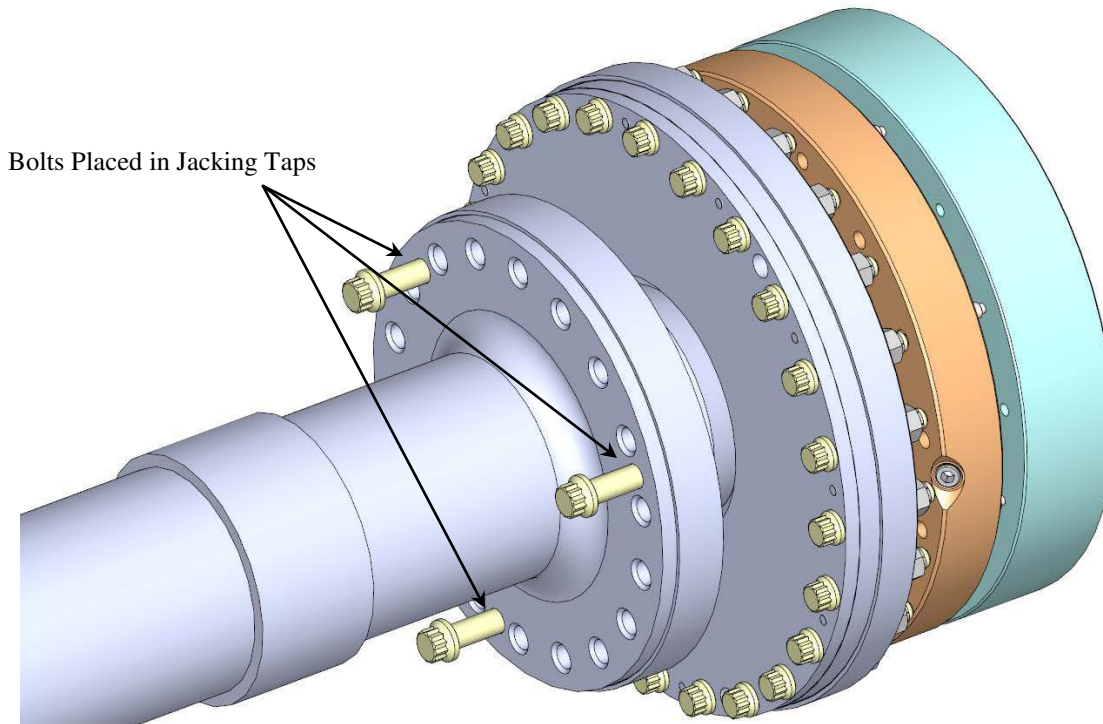
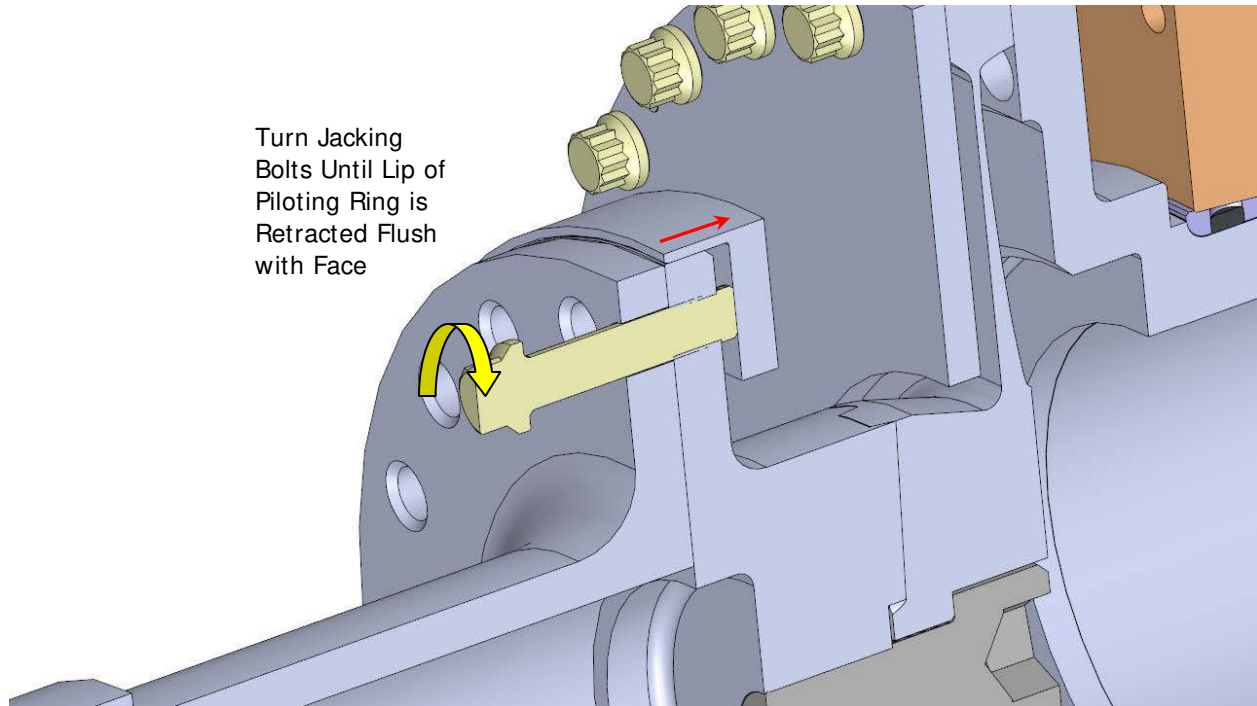

Figure 15 – Bolts in Jacking Taps for Tube Removal
Figure 16 – Retraction of Piloting Ring
5.1.2 Insert (3) of the removed 3/8-24 bolts in the jacking taps of the joint as shown in Figure 15. Turn the bolts in an even criss-cross pattern to retract the piloting ring away from the tube (see Figure 16). When the lip of the piloting ring is just past the mating faces, such that the tube can be removed, stop retracting and remove the bolts from the jacking taps.